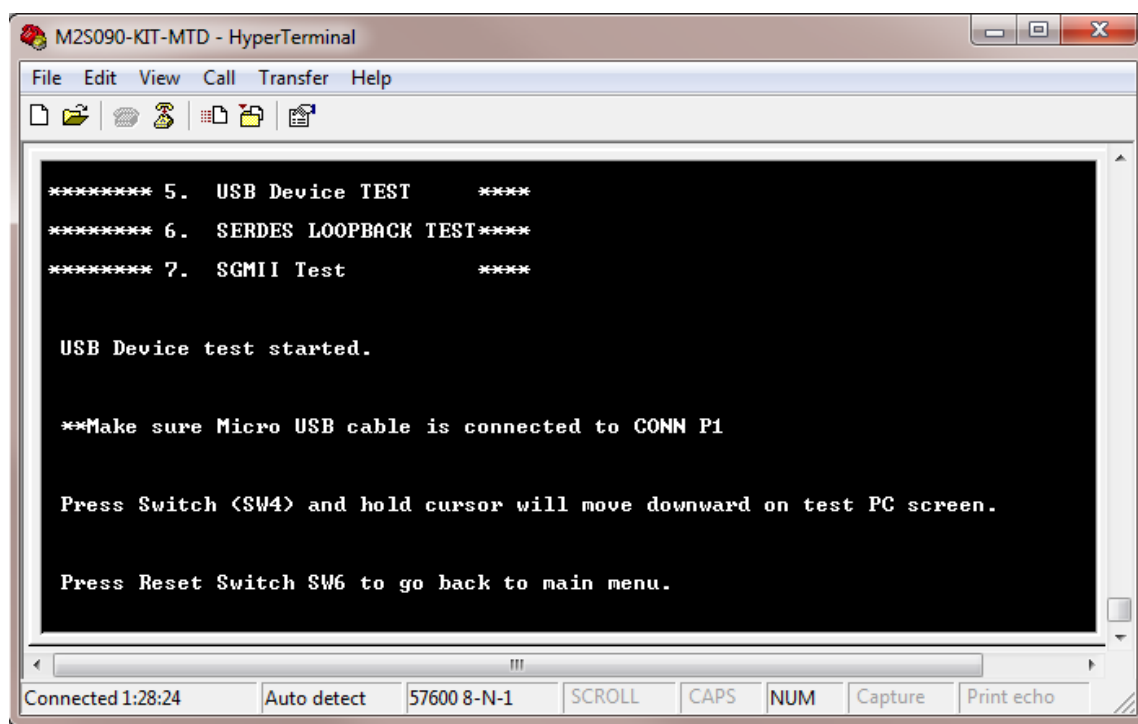

Figure 44 USB Device Test Passed
12. When the test is started, a message is displayed. Refer to Figure 44.